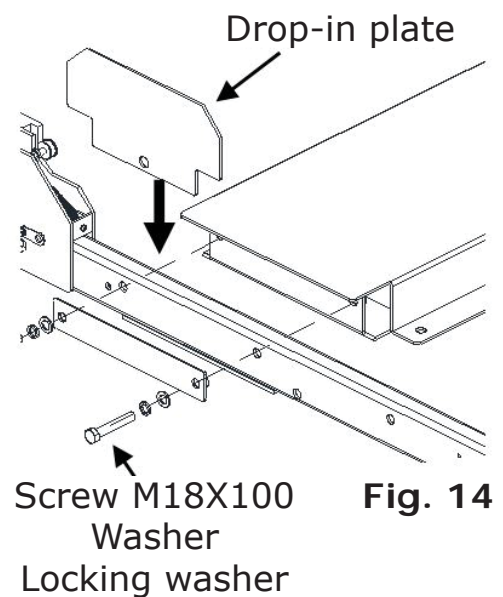

Fig. 14
7.6 Bolting Runway To Transverse Beam (Ref. Fig. 14)